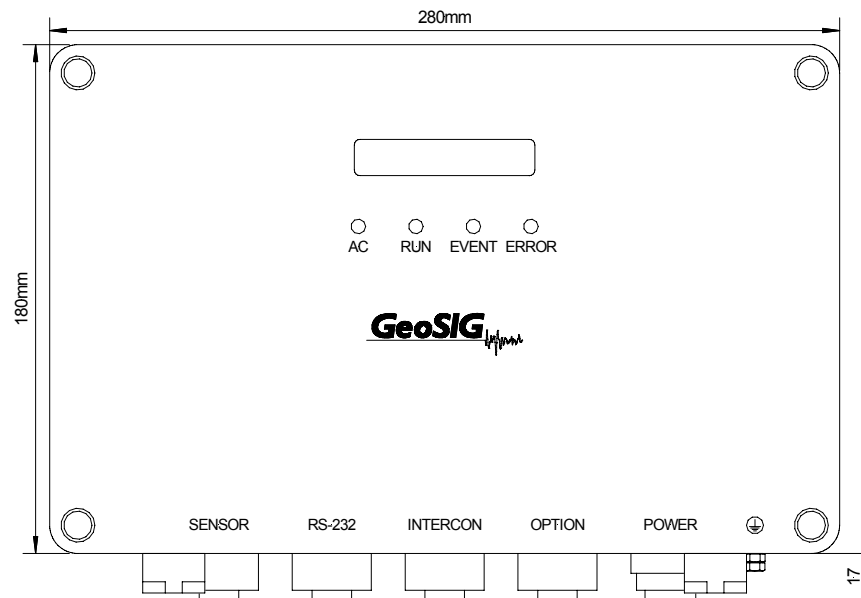
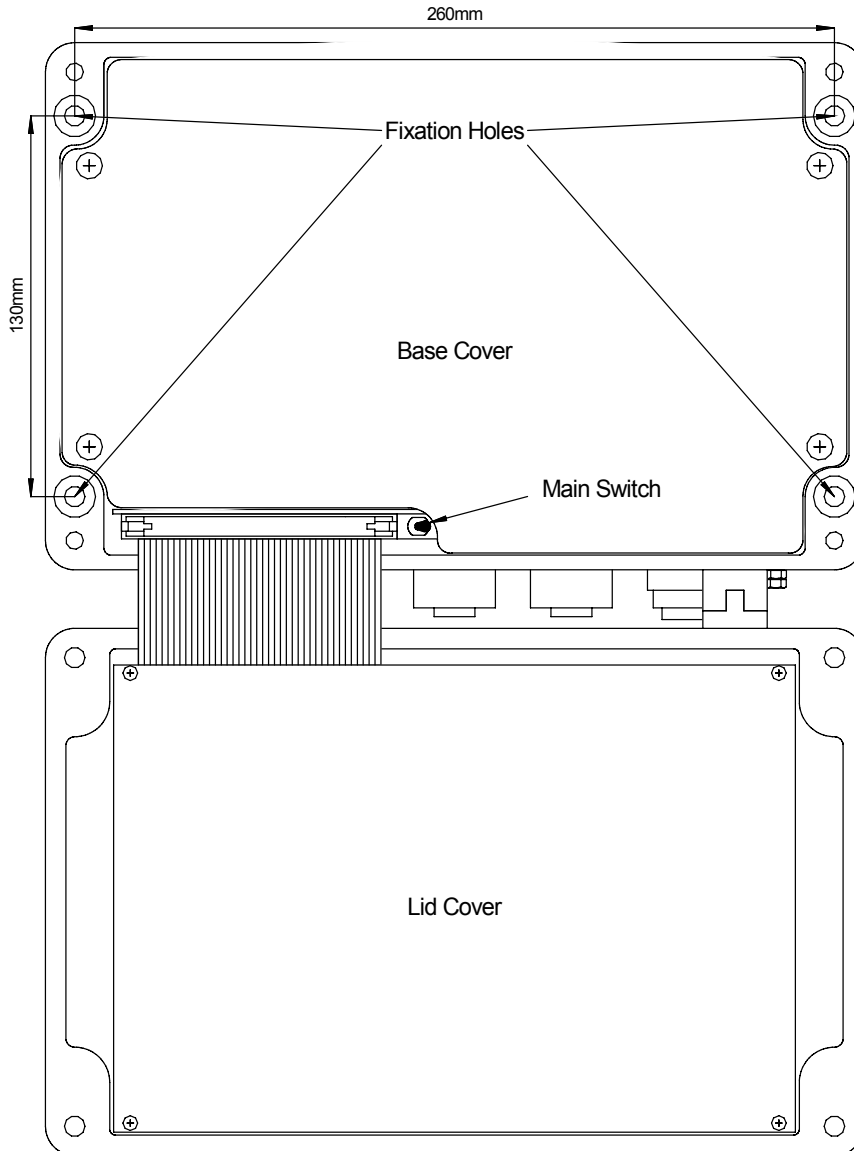

Figure 1. Standard Instrument, top view
Figure 4. Inside of the Instrument
To open the Instrument housing, loosen all 4 screws located at the corners (Please see Figure 1). When all 4 screws are loosened enough, the housing can be opened from its backside. This provides access to the inside of the Instrument, which is divided into two interconnected sections, Base and Lid, holding the Instrument components under protective covers (Please see Figure 4).
- Fix the Instrument with the 4 x M6 x 40 mm bolts to the concrete anchors through the fixation holes at the corners of the housing (see Figure 4).